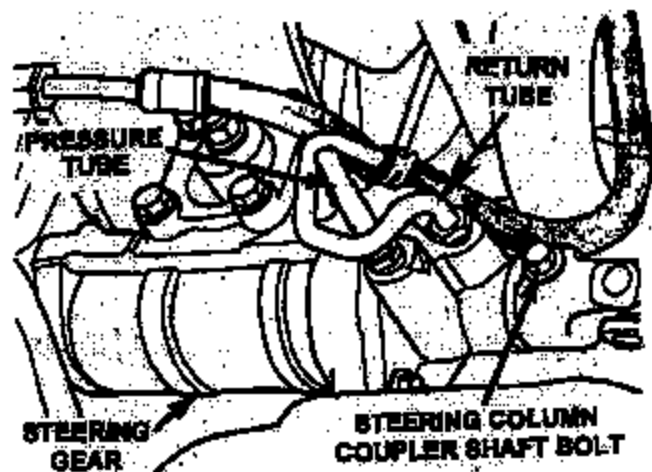

Figure 2
5. Disconnect the power steering pressure and return tubes from the steering gear and cap off the tubes (Figure 2).
6. Remove the steering column coupler shaft bolt and disconnect the steering shaft from the steering gear (Figure 2).
25. Attach the power steering pressure and return tubes to the steering gear (Figure 2). After hand starting the nuts, tighten the tube nut on each power steering tube to 21 ft. lbs. (29 N·m).